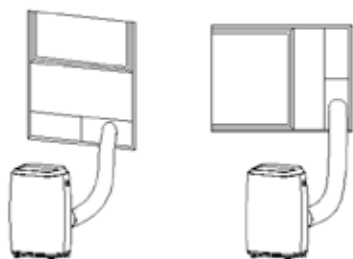

Fig. 5 & 5a
- 2) As shown in Fig.5 and Fig.5a, install the exhaust hose, and adjust the window position well.